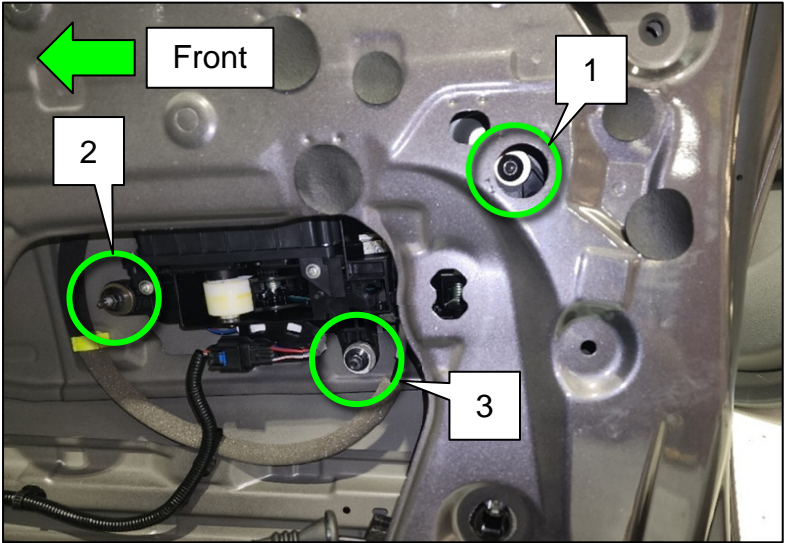

Figure 16
14. While holding slightly upward and forward pressure on the Outside Door Handle Base from the inside, torque the three (3) Door Handle Nuts in sequence (1, 2, 3) as shown in Figure 16.